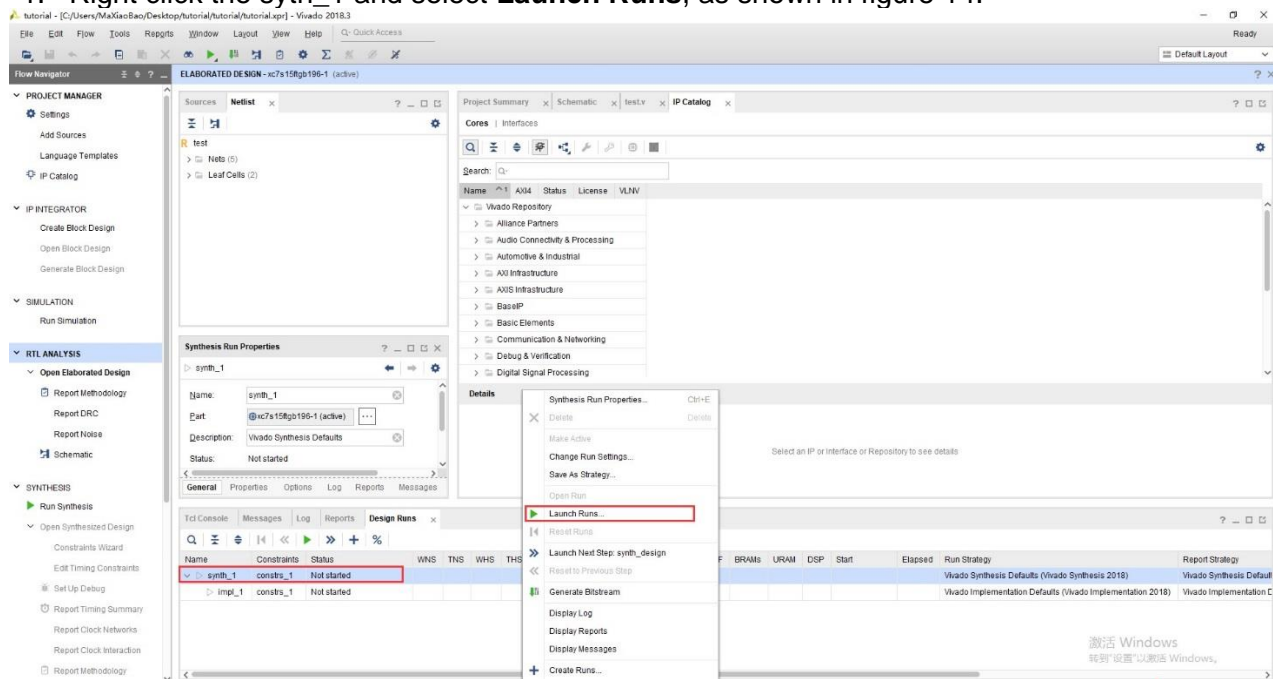

Figure 14.
1. Right click the synth_1 and select **Launch Runs**, as shown in figure 14.